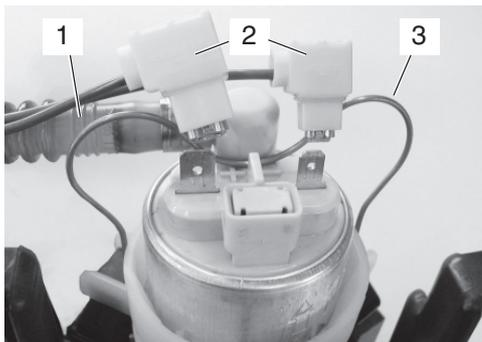

Fig. 1
- Certain pumps can be secured to the sleeve with a stay (3) (see → fig. 1). Remove the stay (3).
- Place the tool (4) with the recess on the angled pressure joint (5) of the pump.
- If the pump was secured with a stay (see → fig. 1), this should now be attached.
- Push the hose (1) onto the hose nozzle and secure with a clip.
- Attach the electrical contacts (2).